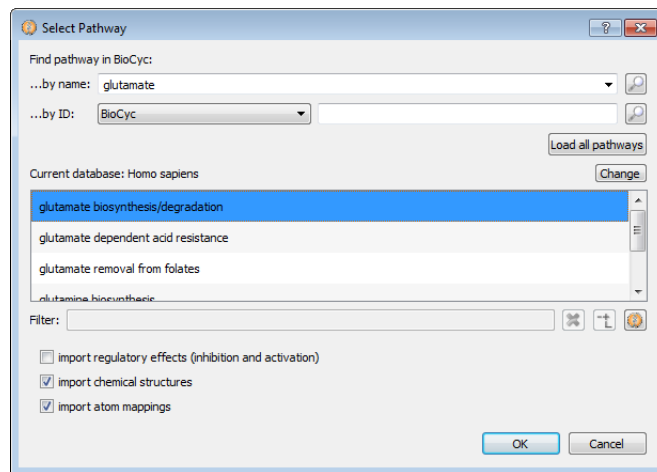

Figure 86 Select Pathway dialog box
- c Click the **Search**  button (Figure 86 on page 87).